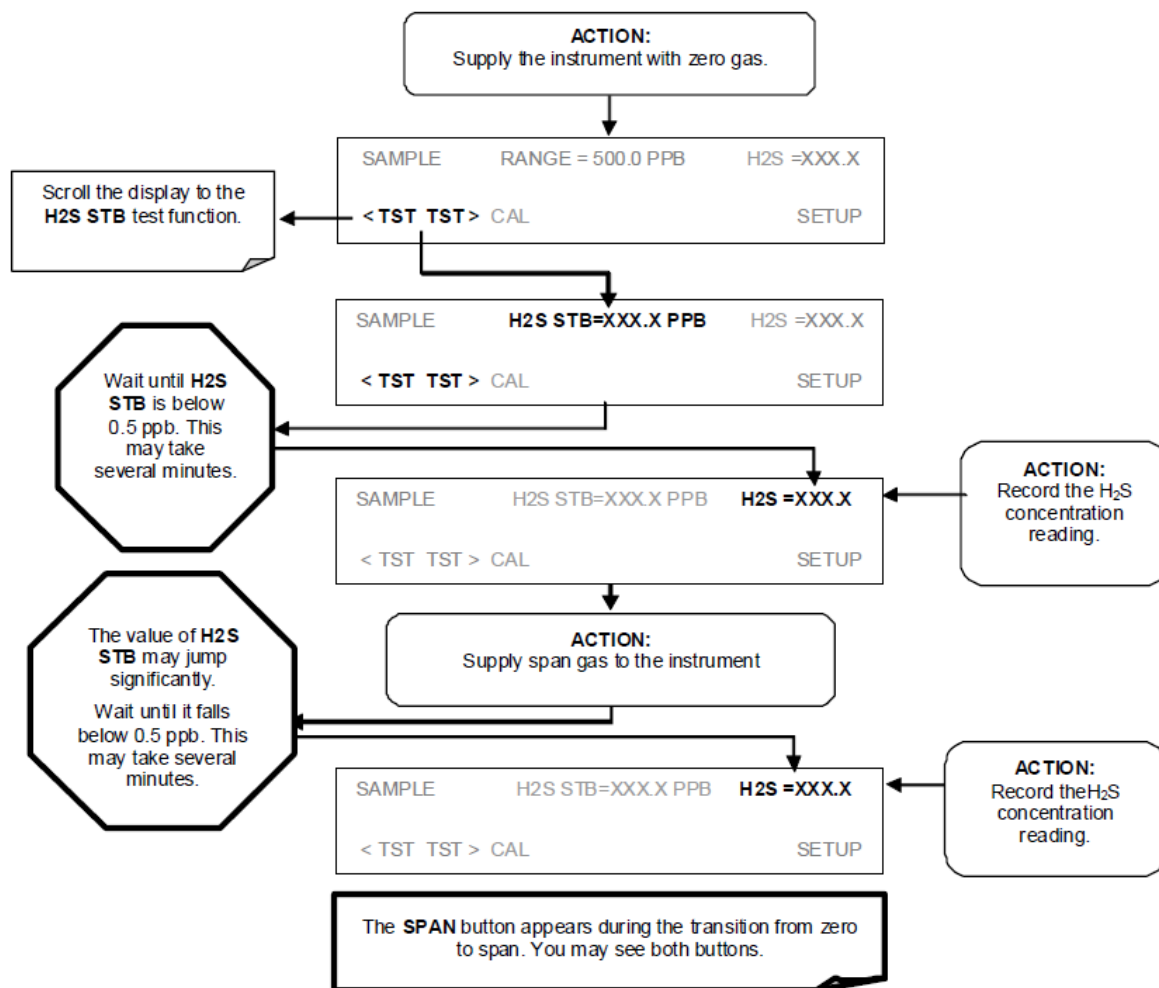

Figure 7.4 Button sequence to carry out a manual calibration check.
7.3.1 Connect the sources of zero air and span gas as shown in Figure 7.4.